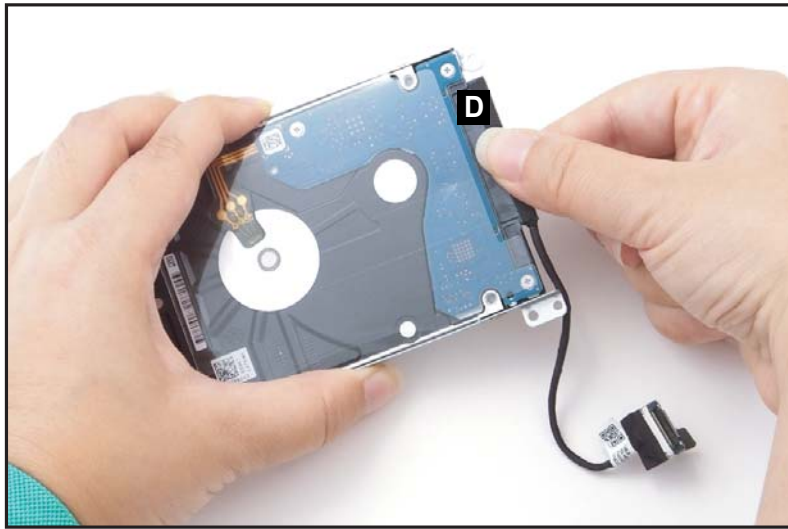

Figure 1-18. HDD Module Removal
4. Disconnect the HDD cable from the HDD module connector (D) (Figure 1-18).